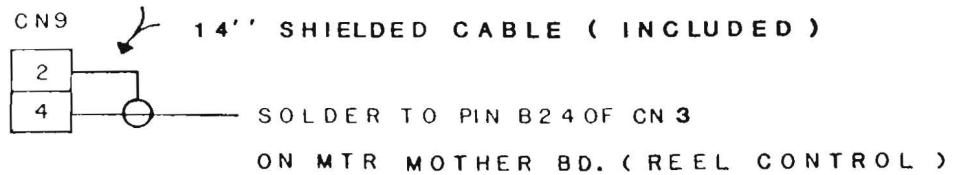

Fig. 3-2
- (1) For MTR-10/12, solder Cable Ass'y A to the back of the MTR-10/12 mother board as shown by Fig. 3-2.